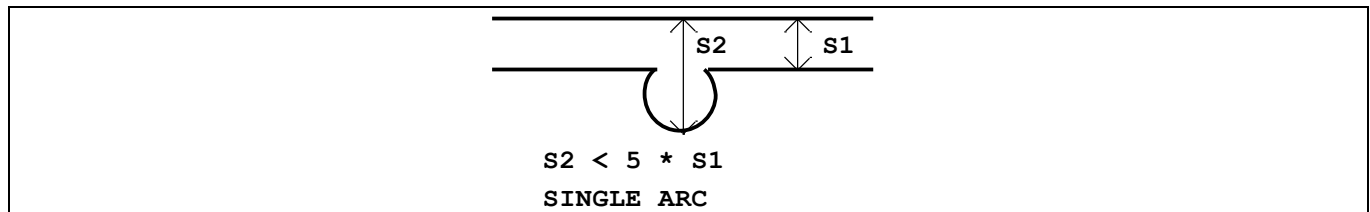
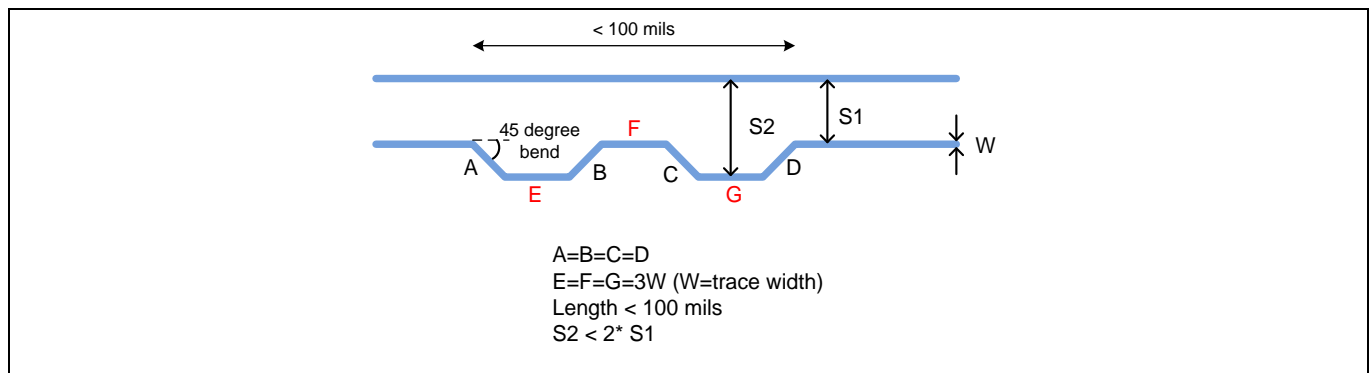

Figure 23 Single arc routing
Figure 24 Serpentine routing
- There are different routing methods for length matching: single arc routing and serpentine routing methods. See Figure 23 and Figure 24 for single arc routing and serpentine routing respectively.